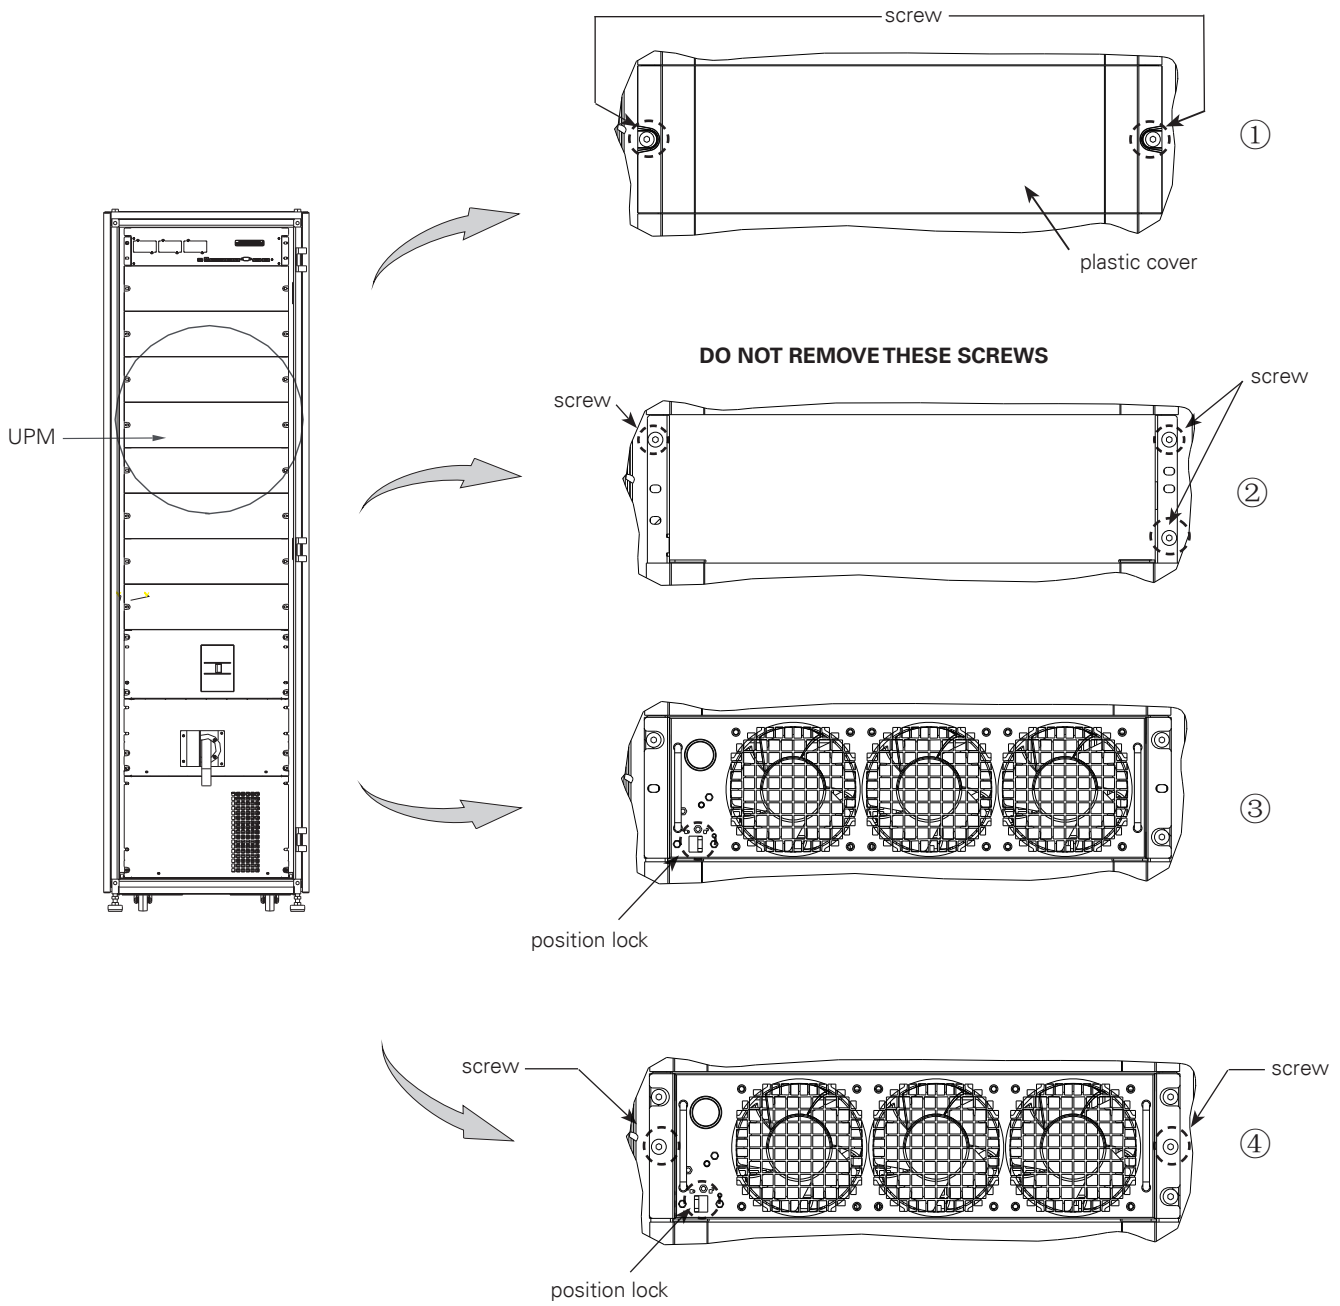

Figure 6-6: UPM Module Location
2. Remove 3 pcs screw shown above and take plastic cover away. We can see the view from the front and 3 screws pre-installed, see Figure 6-6 ② .
4. After UPM is installed, switch UPM lock in lock state, see Figure 6-6 ③ .
5. Right side is unlock state and the other side is lock state, see Figure 6-6 ④ .
6. Fix 2pcs screws to finish the installation and set the position lock located on the front panel of the module to “  ” (see Figure 6-6).